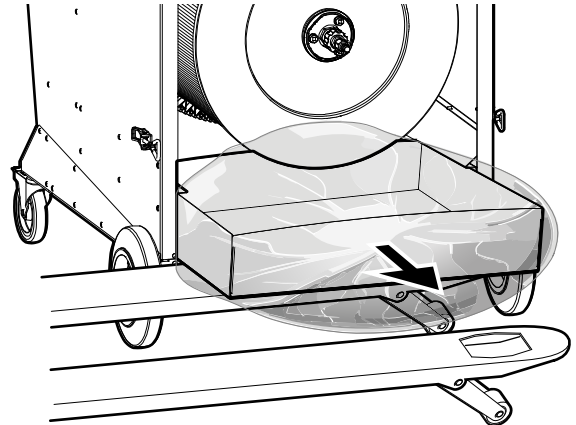

Fig. 34
4. Slowly pull out the dust collector from the filter house into CMF PCW3 filter bag; see **Fig. 34**.